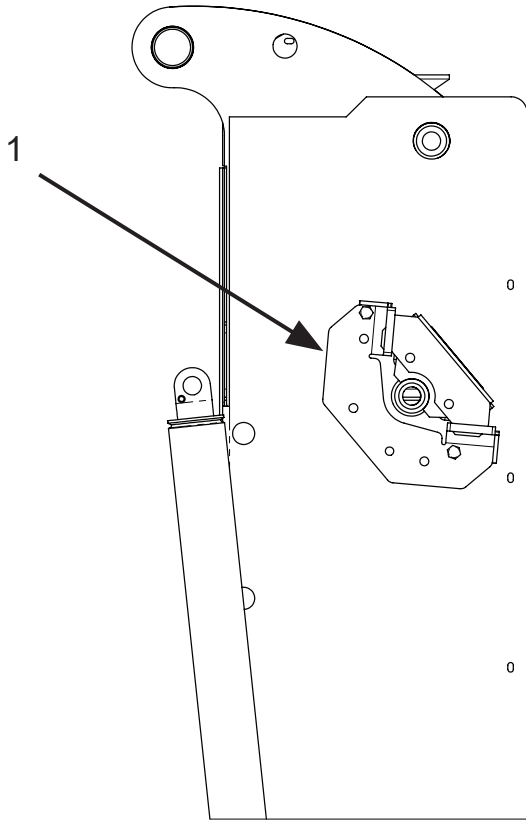

Figure 8
5. Place the current side reinforcement bracket on the truck and install two 1/2-13 X 1.5" bolts (Figure 8).